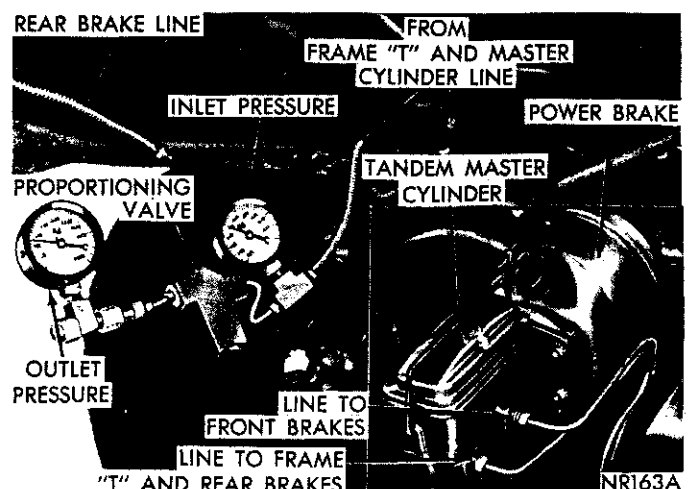

Fig. 17—Checking Proportioning Valve
(1) Install one of Gauge Set C-4007 and "T" in brake line between master cylinder and proportioning valve and remaining Gauge and "T" at output end of valve and brake line. (Fig. 17). **Be sure all joints are fluid tight.**
(2) Have a helper exert pressure on brake pedal (holding pressure). Obtain a reading on master cylinder output of approximately 500 p.s.i.
(3) While pressure is being held as above, reading on valve outlet Gauge should be 360-405 p.s.i.